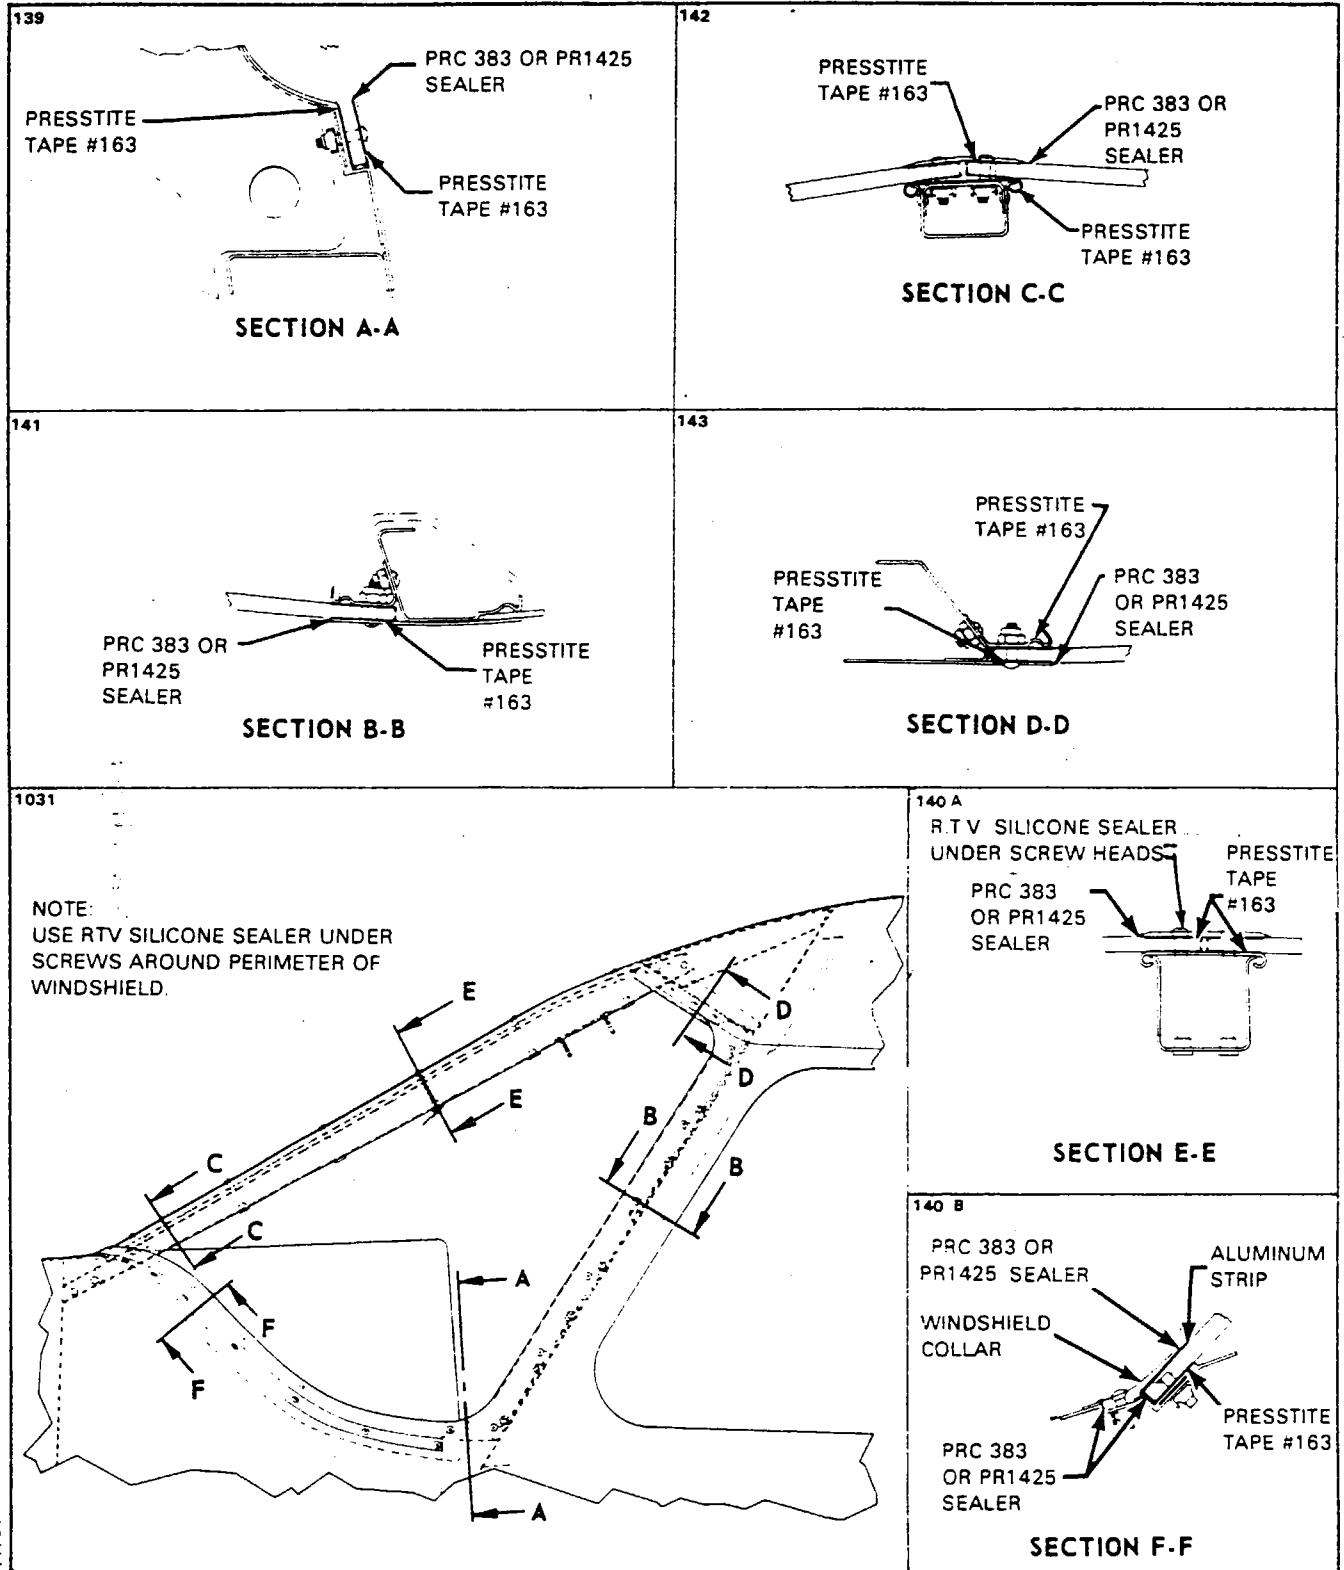

Figure 4-7. Windshield Installation (Standard)
4-48. INSTALLATION OF WINDSHIELD. (Standard) (Refer to Figure 4-7.)
- j. Apply fillet of sealant PRC-383 (code 914-101) or PR1425 as indicated in Figure 4-7. Check for water seepage.